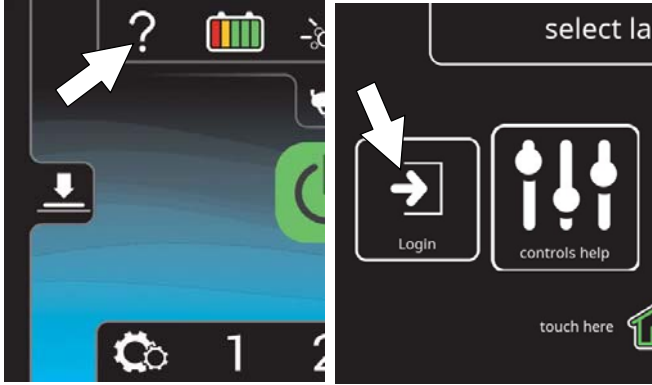

FIG. 169
2. Press the help button and log into the machine as supervisor mode (Figure 169). See *Entering the Supervisor Mode*.